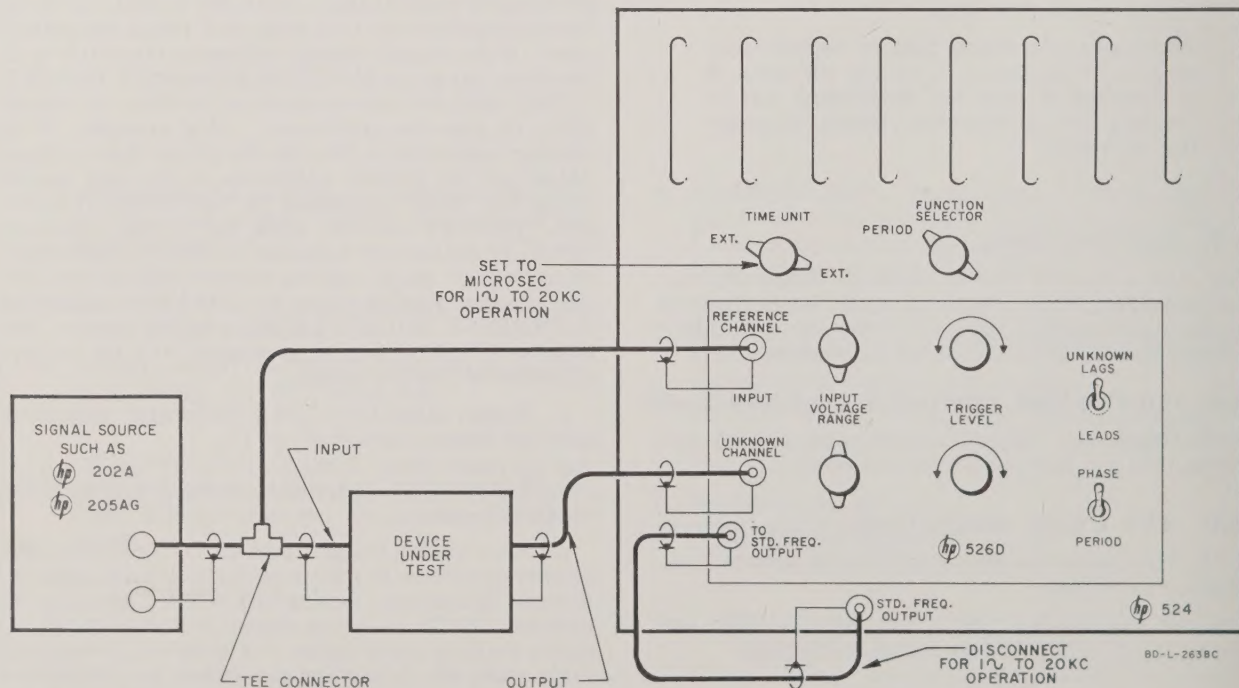

Figure 3-2. Equipment Connections for Measuring Phase Angle of a Device
g. Connect the input of the device under test to the REFERENCE CHANNEL and the output of the device to the UNKNOWN CHANNEL. Supply a 400 cps $\pm 1\%$, 5 to 120 volt rms signal to the input of the device under test (see figure 3-2).
b. Connect the input of the device under test to the SIGNAL INPUT connector of the counter (see figure 3-2). Set the counter FUNCTION SELECTOR to PERIOD and the TIME UNIT switch to MICROSEC. The counter will measure the period in microseconds. Note and record the indication. Suppose the frequency is 1390 cps. The counter indicates a period of 719.4 microseconds.